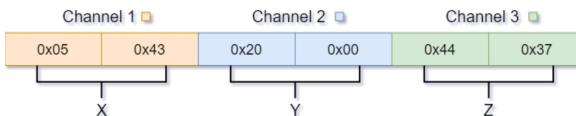

Figure 3. Example *SerialPlot* Simple Binary Data Format
SerialPlot allows for a few different ways input data can be formatted. The first, most simple format is depicted in Figure 3. This format is known as “Simple Binary” in *SerialPlot*. There are a few things to note about this figure, and about the Simple Binary” format in general:
- *SerialPlot* can plot up to 32 channels, so you must specify how many to use for your application. In Figure 3, three channels are used. This means in one “frame” of data, you must output three channels worth of data for it to work correctly.
- *SerialPlot* can interpret most simple data types such as 8, 16, and 32-bit signed and unsigned integers, as well as floats. Figure 3 is an example of what 16-bit data would look like in this format. You can choose whether it is plotted as signed or unsigned.
For the same example given in Figure 3, assuming that three channels of signed 16-bit data in the little-endian data format were expected, the following three values should be supplied to *SerialPlot* in the same order given: 0x4305, 0x0020, and 0x3744. When outputting this data with UART, you would output the data in the order shown in Figure 3: 0x05, 0x43, 0x20, etc. After all six bytes have been sent to *SerialPlot* via USB, the plot will update with the three new values corresponding to each channel.
- 5.5. Create a “C” file, **lab6_5.c**. Write a “C” function to transmit a stream of sensor data via your USB Serial Port, in the correct order according to the *Simple Binary* format, following the pattern in Figure 3 and as described above. Make sure that your function transmits the correct number of bytes, in the right order. Your function should also utilize other functions (or macros) that are available in lab6_files.zip, provide to you, such as *usartd0_out_char()*. Be careful to *not* use *usartd0_out_string()*, since this routine expects a null-terminated string, which your data will likely not be! Instead, it is advised that you create a function, similar to *usartd0_out_string()*, that outputs a *specific number of bytes* via the relevant USART module, rather than continually output until a null character is encountered.